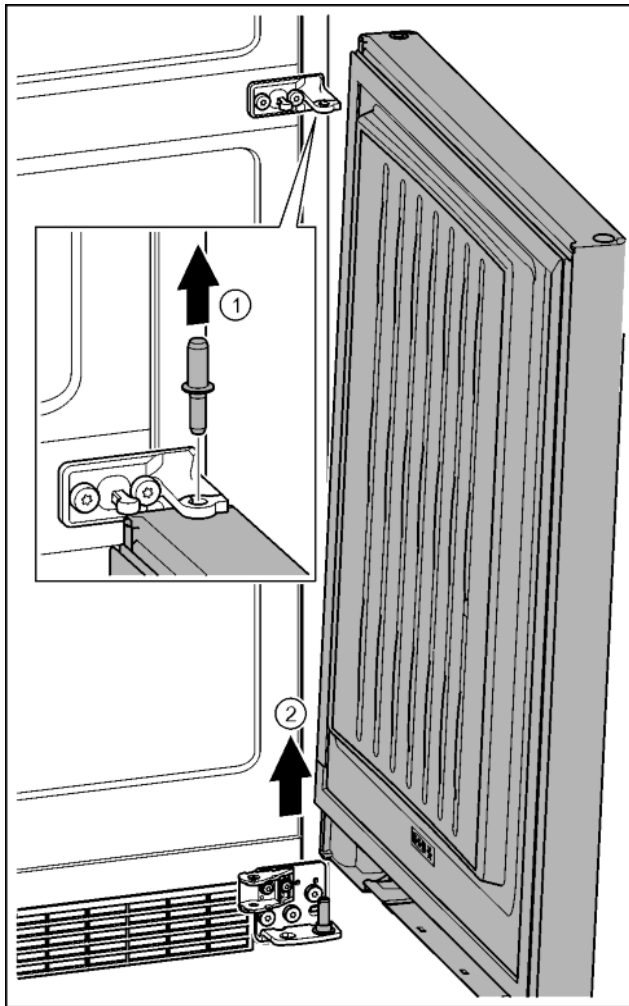

Fig. 24
- ▶ Remove the bolts in an upward direction. Fig. 24 (1)
- ▶ Swivel the door out, pull it upwards and set it to one side. Fig. 24 (2)